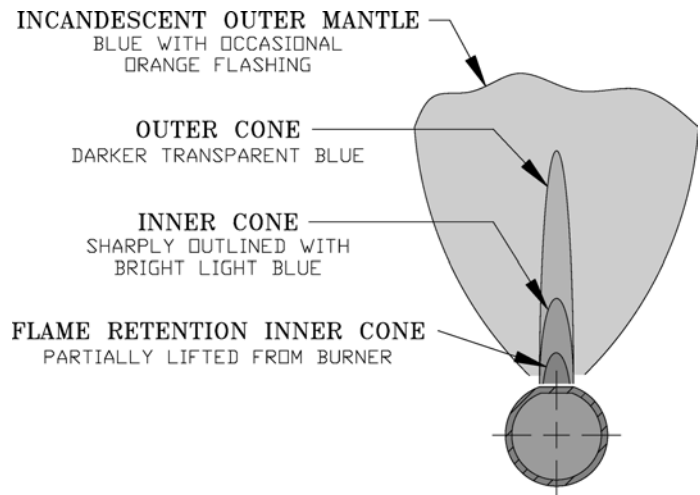

Figure 59: Main Burner Flame
3. Check main burner flames. See Figure 59. Flame should have clearly defined inner cones with no yellow tipping. Orange-yellow streaks caused by dust should not be confused with true yellow tipping.